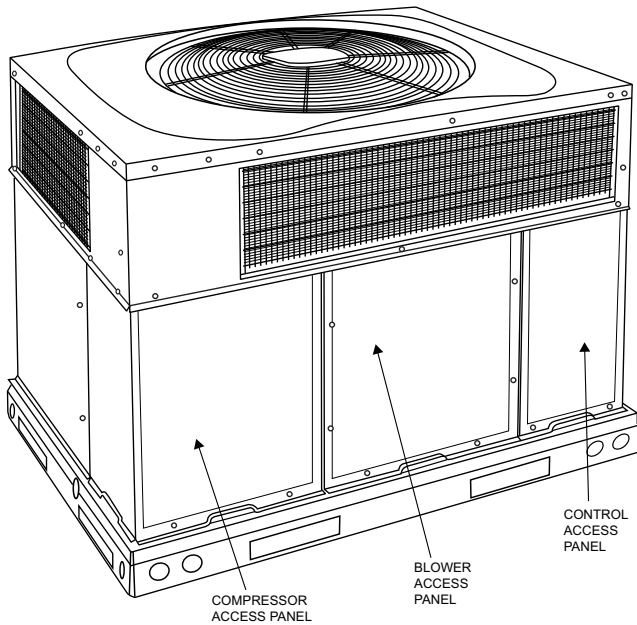

Fig. 26 – Unit Access Panels
- a. Remove blower access panel (see Fig. 26).
- g. Reinstall blower access panel (see Fig. 26).
Remove access panels (see Fig. 26) to locate all the electrical controls and wiring. Before working with or handling any electrical components, make sure that all capacitors are properly discharged to avoid possibility of sparking. Replace components only with parts specified by the manufacturer. Other parts may result in the ignition of refrigerant in the atmosphere from a leak. Check all electrical connections for tightness. Tighten all screw connections. If any discolored or burned connections are noticed, disassemble the connection, clean all the parts, restrip the wire end and reassemble the connection properly and securely.